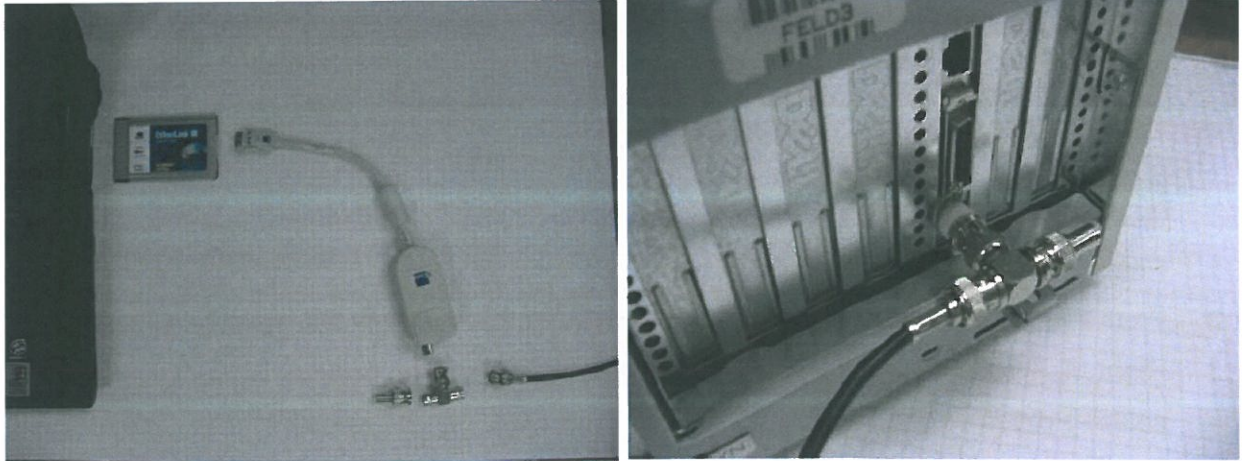

Figure 3: LAN “Dongle Adapter” connection and Network module connection
- ✓ LAN Network “Dongle Adapter”: PCMCIA slot to Coax LAN cable (See Figure 3 below):